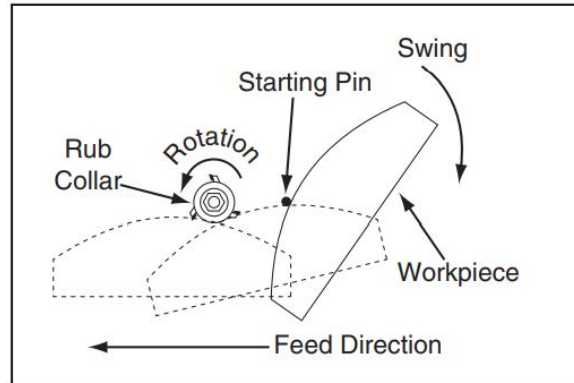
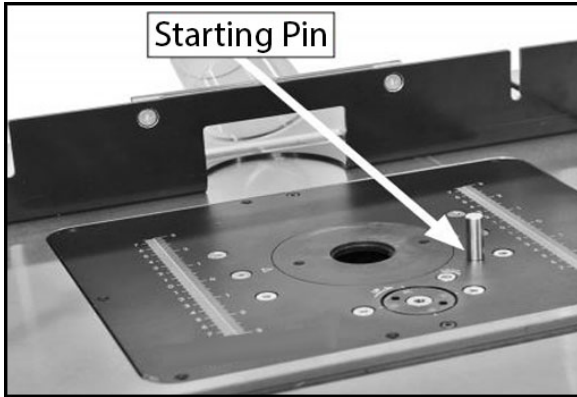

Figure 56
Figure 57
A starting pin or block (Fig.56 & 57) can reduce the likelihood of kickback when free-hand routing and will allow you to anchor and slowly pivot the workpiece into the router bit at the start of the cut.
2. Fabricate a jig that matches the desired shape of your workpiece, and then attach it to the workpiece (Fig56)
5. Insert a starting pin in the hole provided on the insert plate (Fig.57) or clamp a starting block to the table (Fig.56)